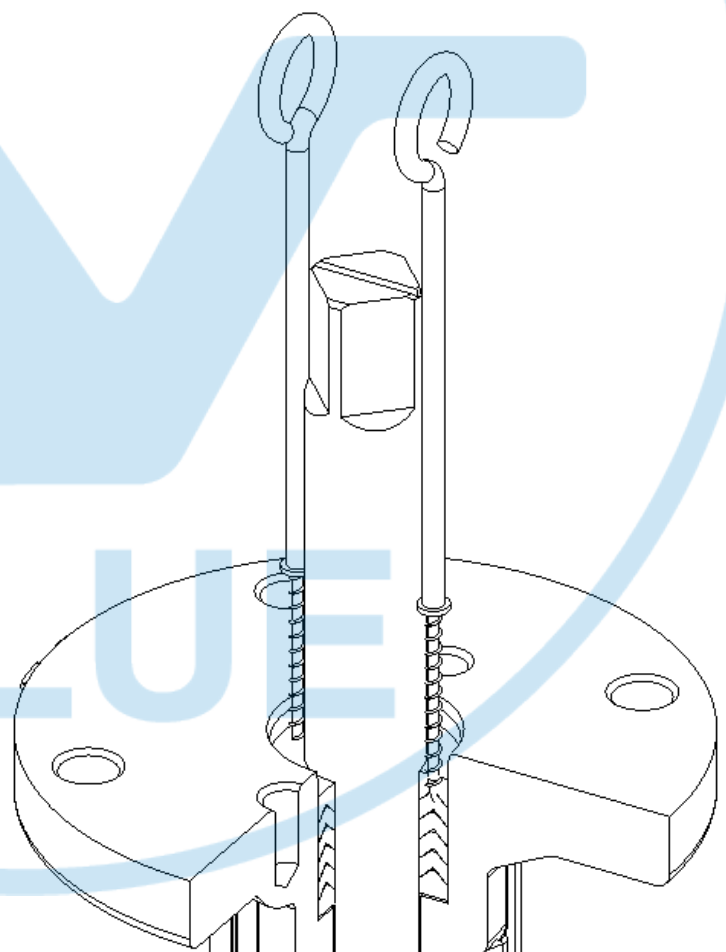

Fig.11
12.2 將填料箱(Stuffing Box)中的迫緊圈全部勾出。(Fig.11)